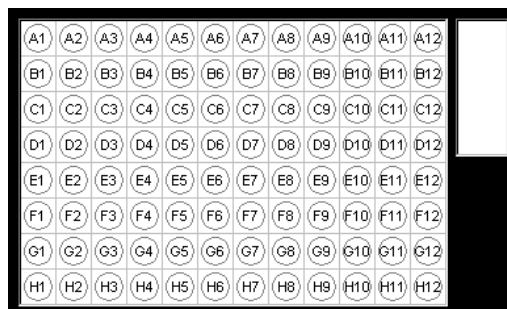

Figure 5-20 Microtiter Plate and Reservoir Image
4. If you put the wash solution somewhere other than the default location, click the down arrow on the far right of the dialog box to select the location of the wash solution. A microtiter plate and reservoir image opens as shown in Figure 5-20. Click on the location in the image.